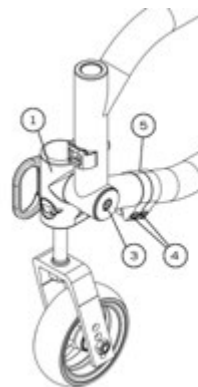
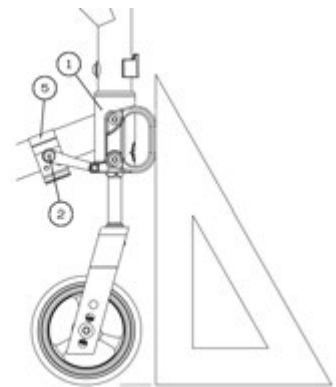

Fig. 31
Fig. 32
- Insert the stem bolt (3) into the fork (4) and tighten the lower lock nut (5) while holding the stem bolt from the bottom to prevent the fork from turning.
- Insert the assembled stem bolt with fork through the caster housing (6)
- Tighten the upper lock nut (2) while holding the stem bolt (3) from the bottom to prevent the fork from turning.
- Replace the plastic cap (1).
- If the housing is not parallel to the set square, remove the screws (4) (Fig. 31) and loosen the pivot bolt (3) (Fig. 31).
- Rotate the caster housing to adjust the angle while sliding clamp (5) on the frame.
- Tighten screw (3). This will hold the caster housing position.
- Check again that the caster housing is perpendicular to the ground using the set square. (fig. 32)
- Reinstall the two screws (4) in the clamp (5).
- Tighten screws (4) to a snug fit.